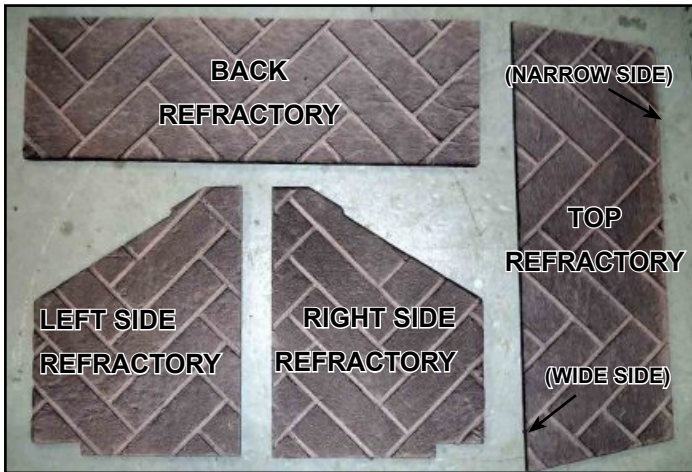
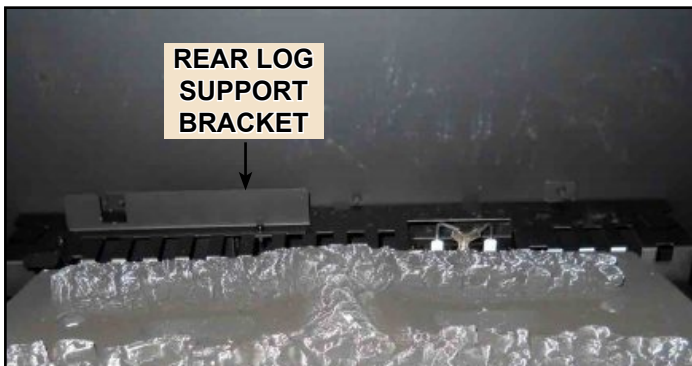

Figure 10.3 Refractory Components
Figure 10.4 Install Rear Refractory
1. Place the back refractory between the rear log support bracket and the back of the firebox. Center the refractory on the back of the firebox for best alignment with side panels. See Figure 10.4.
Verify whether the appliance is Natural Gas or Propane. The placement of the rear log is different for each gas type. See Figure 10.3 which shows the bracket position for Propane. Note that there is a gap between the bracket and the vents. Compare with Figure 10.4 which shows the bracket in position for NG. The bracket is installed so its edge is aligned with the edge of the vents. There is no gap.